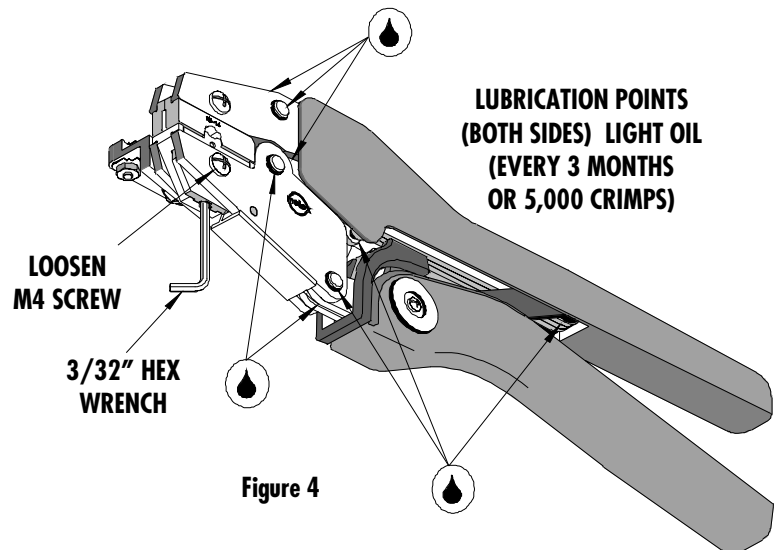

Figure 4
6. If the insulation part of the crimp needs to be adjusted, first loosen the M4 screw on the bottom tool jaw, then insert a 3/32 hex wrench (supplied) into the bottom of the lower die (See Figure 4). A clockwise (CW) rotation decreases insulation crimp while a counter-clockwise (CCW) rotation increases insulation crimp. After adjusting reighten the M4 screw.
3. Make certain all pins; pivot points and bearing surfaces are protected with a thin coat of high quality machine oil. Do not oil excessively. The 64001-1700 (RHT-5757) was engineered for durability, but like any fine piece of equipment it needs cleaning and lubrication for a maximum service life of trouble-free crimping. A light oil, such as 30 weight automotive oil used at the oil points shown in Figure 4, every 5,000 crimps or 3 months will significantly enhance the tool life and ensure a stable calibration.